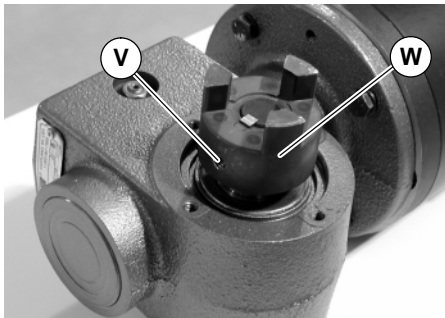

Figure 12
5. Loosen set screw (V of Figure 12) and remove 3 jaw coupling (W).
11. Install 3 jaw coupling (W of Figure 12) and tighten set screw (V) to 45 in-lbs (5 N-m).